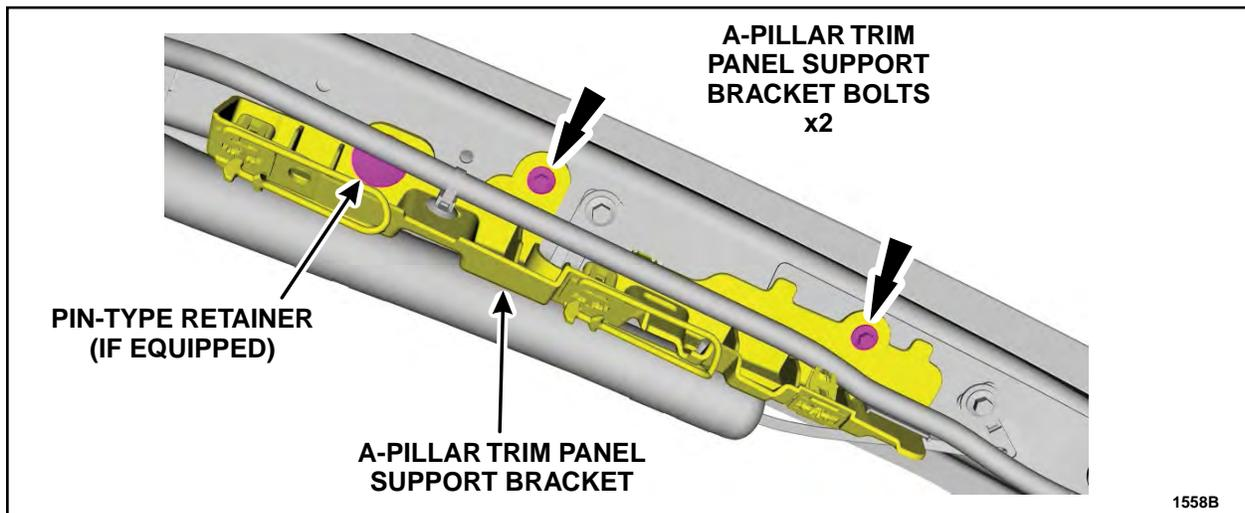

FIGURE 1
2. Remove the two bolts (and pin-type retainer on vehicles built after June 2, 2015) from the A-pillar trim panel support bracket. If equipped, discard the pin-type retainer. See Figure 1.